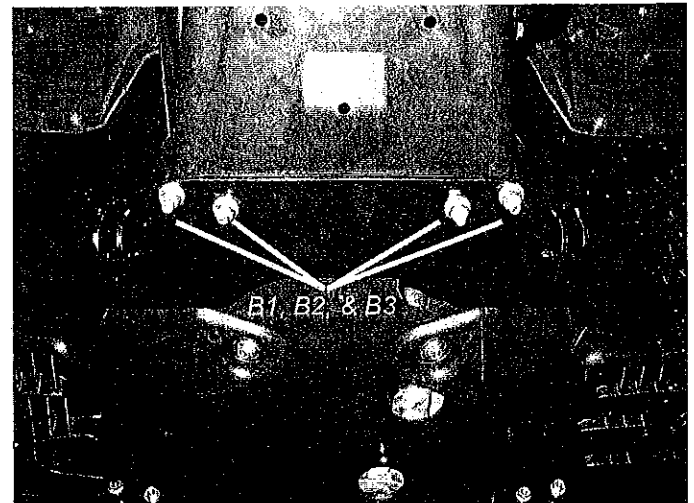

Figure 8 - U-Bolt Check
8. Loosely fasten the skid plate onto the vehicle. Repeat steps 2 and 3 to loosely fasten the plow mount. Slide the two u-bolts (B1) around the frame tubes and through the skid plate and plow mount, figure 8. Loosely fasten the u-bolts with the four 5/16" flat washers (B2) and four 5/16-18 lock nuts (B3).